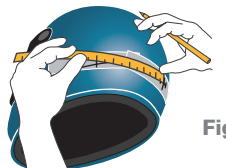

Figure 5
- 4 Measure 6" (150mm) forward from the rear center line on each side of the helmet to a point 1.5" (43mm) above the rubber molding. **See Figure 5**